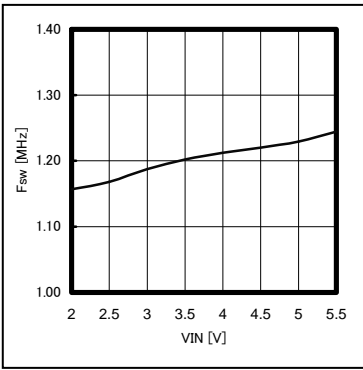

Fig.4 Dependent on Input Voltage Frequency
- (Please refer to Fig.4 of next page for details.)